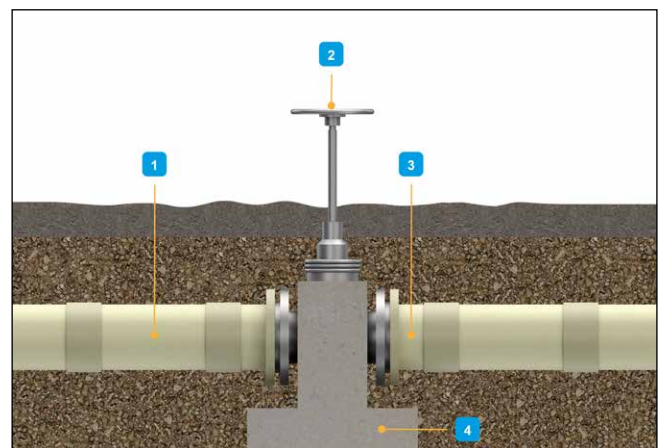

Fig. 77: Type 1—Valve encased in thrust block
The cheapest and easiest way to install a small diameter valve is to directly bury it, encapsulated it in its concrete thrust block (see Fig. 77).
- The flanged stubs should be no more than 1000 mm in length, with an Amiblu coupling on the outside leg connecting the stub to a rocker pipe (Fig. 77).